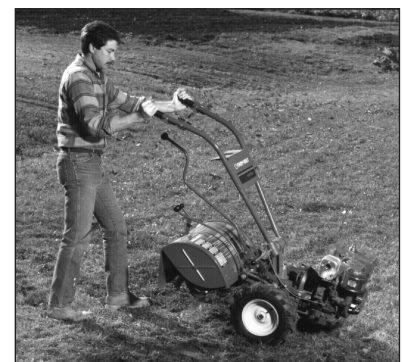

Figure 4-5: Turning the tiller.
Turning the tiller is easy and just requires practice. First find the balance point between the engine and the tines by lifting up the handlebars (Figure 4-5). Once you find the balance point, then let the powered wheels do the turning as you push sideways on the handlebars in the direction of the turn. Practice the turning maneuver described here in a large open area. Once comfortable turning the tiller, you can then take it to the garden area.
3. Resume forward operation, and lift handlebars until tines are off the ground (Figure 4-5). Find the balance point between the engine and the tines. Then push the handlebars in the direction of the turn. *Be very careful to keep feet and legs away from the tines (which should be disengaged).* Let the powered wheels do the hard work. The inside wheel will pivot in place while the outside wheel drives the tiller around in the direction of the turn.